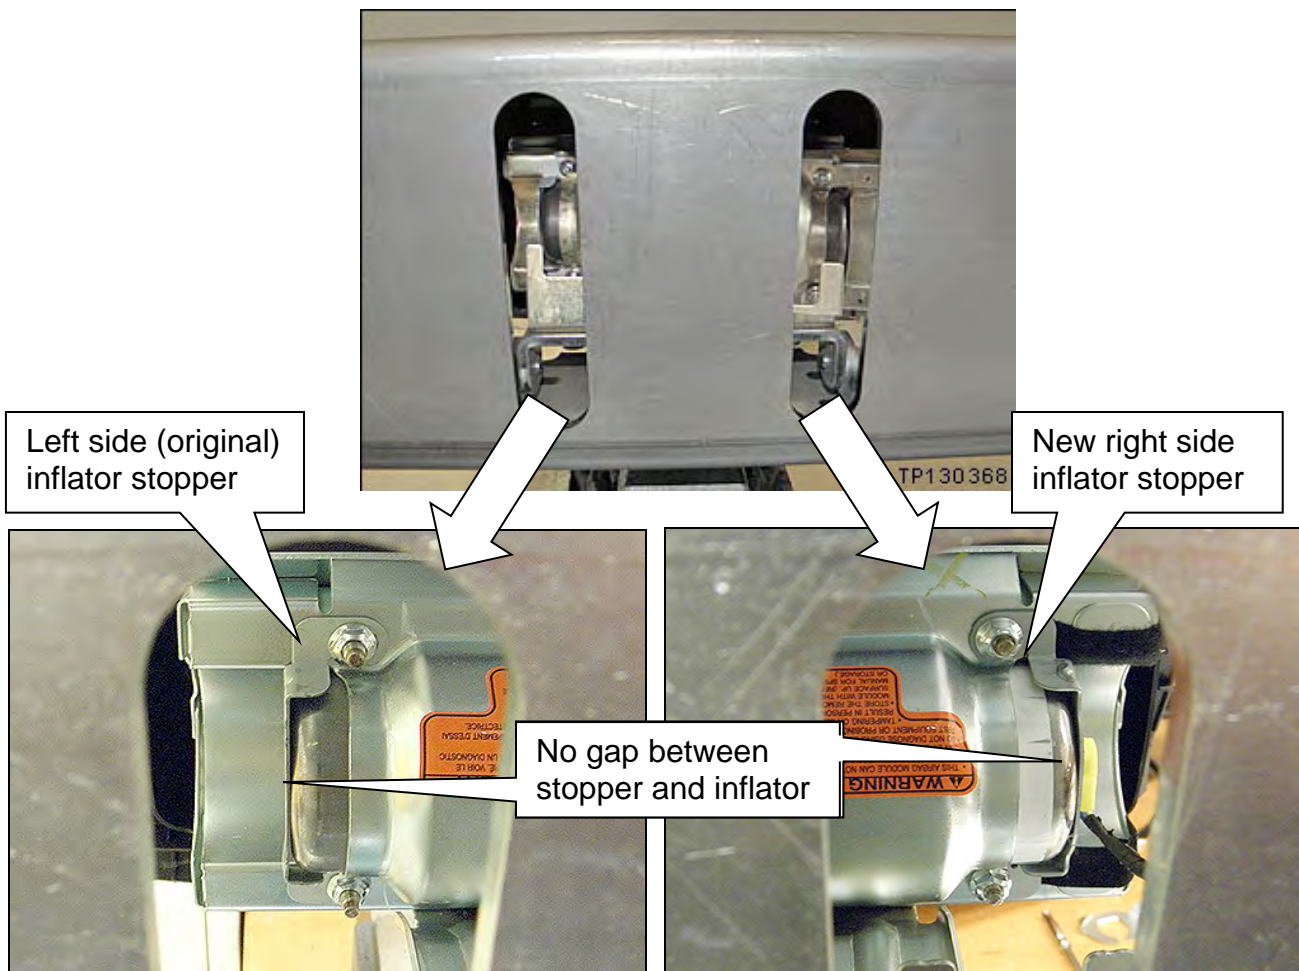

Figure S19
21. Install the left side (original) inflator stopper and 2 inflator securing nuts finger tight (see Figure S19).
22. Make sure the inflator is pushed all the way into its housing (see Figure S19).
23. Make sure there is no gap between the inflator stoppers and the inflator (see Figure S19).